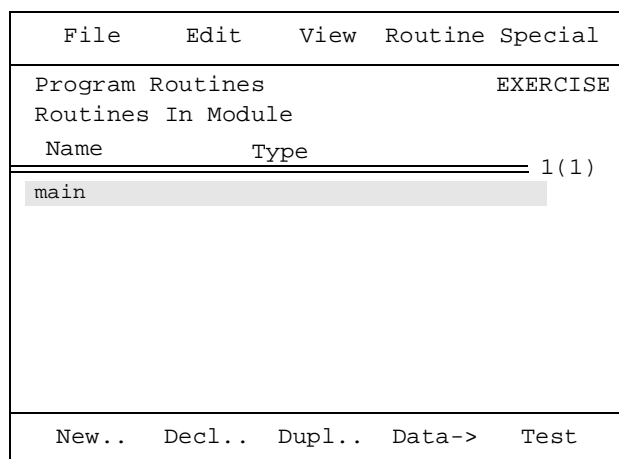

Figure 31 Opening the main file of the training program.
- Press **OK** and a window like the one in Figure 31 will appear.